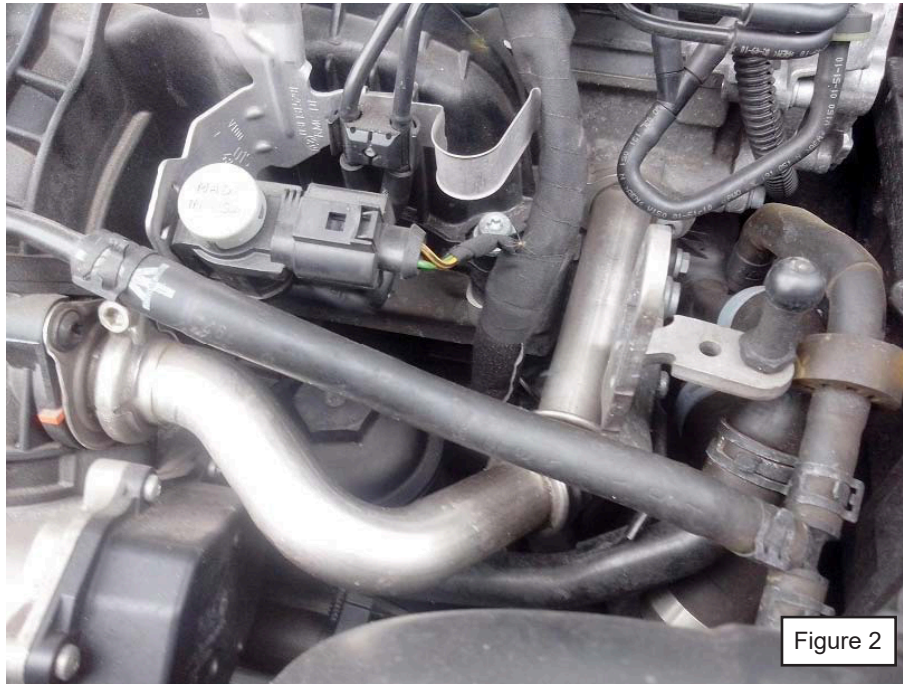

Figure 2
4. Remove EGR outlet pipe clamp and EGR outlet pipe bolts (see figure 2). Remove gasket and EGR outlet pipe and set aside.